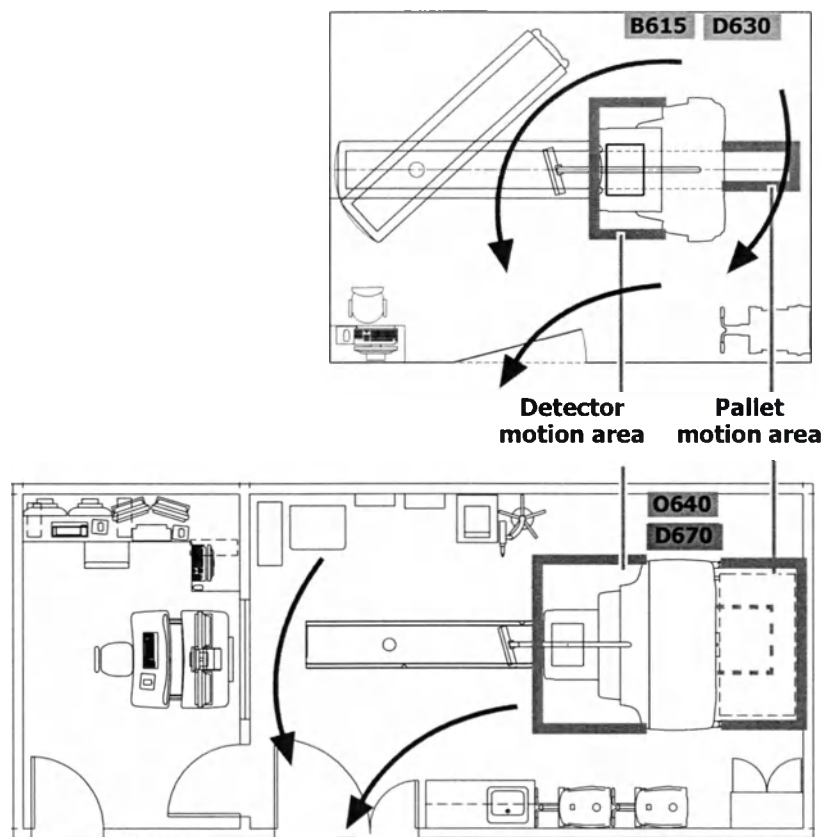

Figure 3-8: Obstruction Free Area
- An unobstructed egress route is required around the system, see red arrows in Figure 3-8, p.3-20.
- An obstruction free area is marked around the system, with yellow lines on the floor, see Figure 3-8, p.3-20.